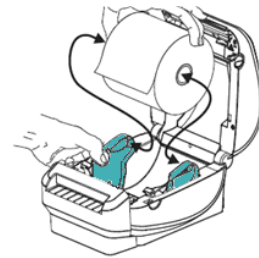

Figure 3.7.4 Loading Labels
- 2) Open the printer by simultaneously pulling the release latches on right and left sides forward and lifting the top cover (Figure 3.7.4).